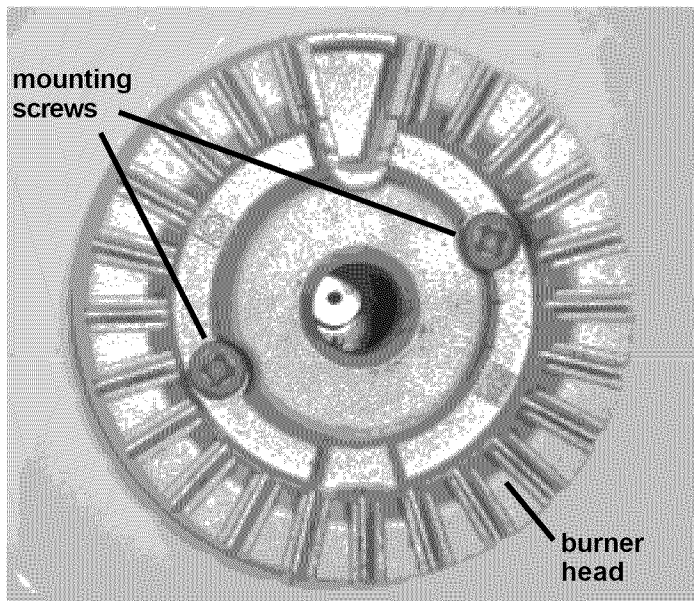

Fig. 4
- Remove 2 screws using #1 square tip driver and remove Burner Heads (Figs 4 & 5).